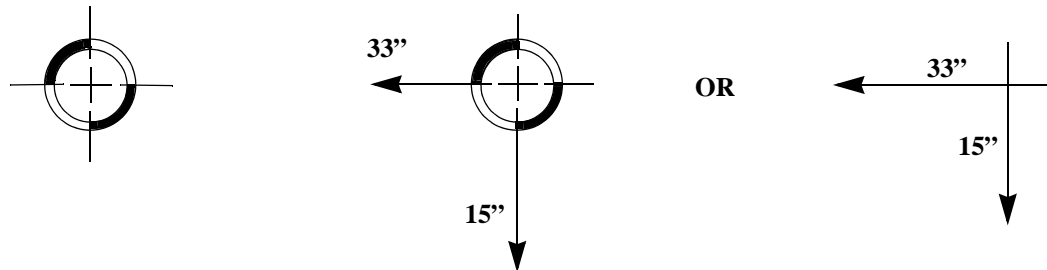

FIGURE 6: LOFTED TRAMMEL POINTS
- 3.1.2. For checking and photo reproduction purposes, most hand drawn lofts include a 5.000 inch square grid, accurate within 0.003 inch of true dimension, as well as trammel point targets indicating specific horizontal and vertical dimensions between targets, accurate within +/- 0.010 inches. Ref. Figure 6.